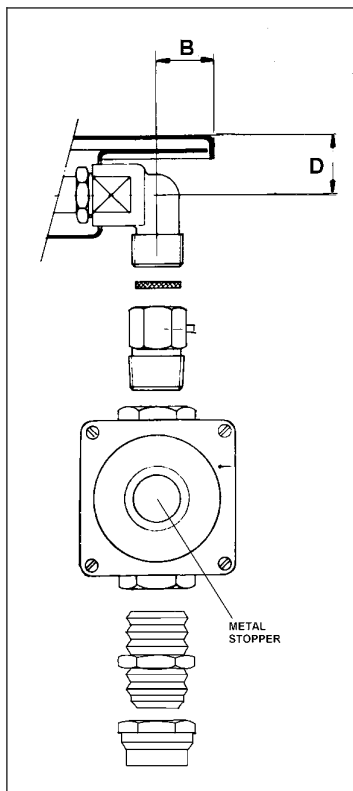

Fig.5A
4. For LPG models the gas supply is connected to the regulator which is supplied loose. The inlet connection has a 1/2" B.S.P. male thread. IT IS ESSENTIAL THAT THE ELBOW ON THE APPLIANCE BE HELD FIRMLY WITH A SPANNER WHEN CONNECTING THE SUPPLY. DO NOT OVER TIGHTEN. The regulated pressure For LPG is 11" w.c. (See Fig. 5A).
5. For NG models the gas supply is connected to the regulator which is supplied loose. The inlet connection has a 1/2" B.S.P. male thread. IT IS ESSENTIAL THAT THE ELBOW ON THE APPLIANCE BE HELD FIRMLY WITH A SPANNER WHEN CONNECTING THE SUPPLY. DO NOT OVER TIGHTEN. The regulated pressure For NG is 4" w.c. (See Fig. 5A).
6. For gas inlet position of appliance refer Fig 5A and 5B. After installing the gas supply and making all connections check thoroughly for possible leaks. Turn all control knobs on the unit to 'OFF' position. Open the valve on the gas supply. Using a soap and water solution check each gas connection one at the time, by brushing the solution over the connection. Presence of bubbles will indicate a leak. Tighten the fitting and re-check for leaks. If it is not possible to correct the leak, replace fitting. Under no circumstances use matches or flame for checking leaks.
Before carrying out any maintenance work, disconnect the appliance from the gas and electric supply. For Natural Gas fit regulator assembly described in Fig. 5A. For LP Gas fit assembly described in fig. 5A.
- 1) Unscrew by hand the upper metal stopper of the regulator (Fig. 5A).